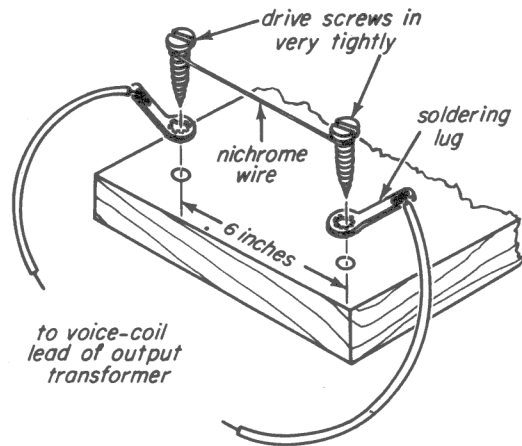

Fig. 24-5
* If the output of the loudspeaker disturbs you or your family, you can substitute a dummy load for the loudspeaker voice coil. Cut off a 6" length of nichrome wire. Mount it on a small board as shown in Fig. 24-5. Extend the voice coil leads of the output transformer and connect them to the terminal lugs, as shown.